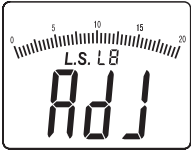

Figure 5-2
- Cover the opto-sensor with the visor, and press and hold “HOLD/ ZERO” key for one second, “ADJ” will appear on LCD interface (as shown in figure 5-2), then the device will enter the zero calibration mode. Several seconds later, “ADJ” on LCD interface will disappear, and zero calibration mode will automatically exit and return to auto measurement mode.